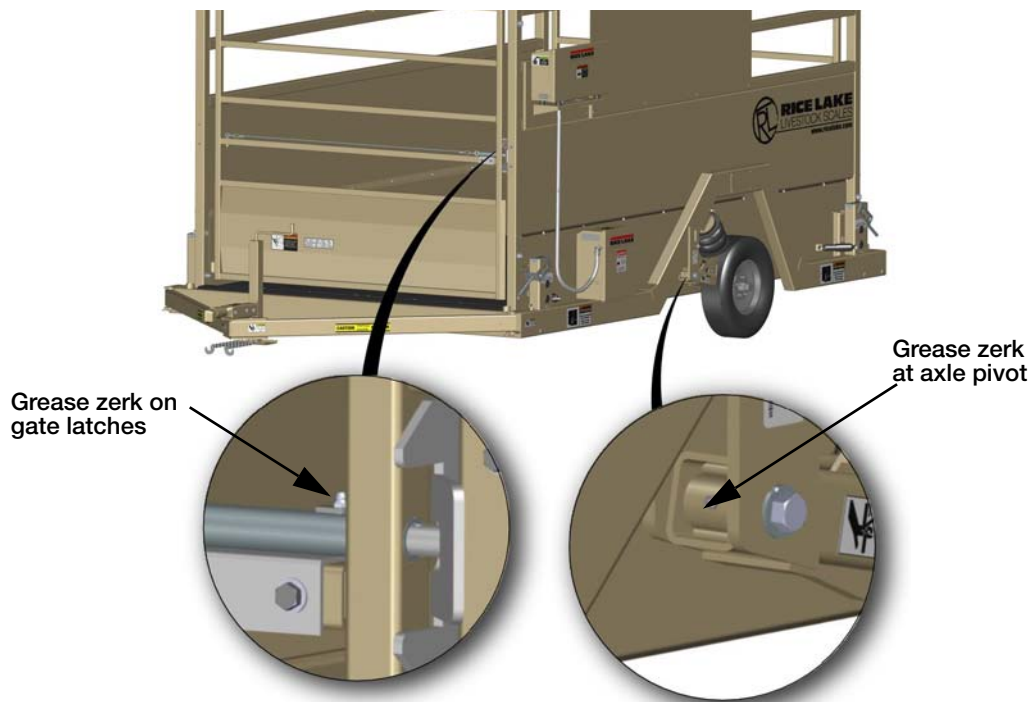

Figure 5-1. Grease Zerk Locations
Grease axle pivot locations, using the provided grease zerks (see Figure 5-1), using a “Black Moly” type grease.
3. Grease gate latch zerks (see Figure 5-1) using a “Black Moly” type grease.